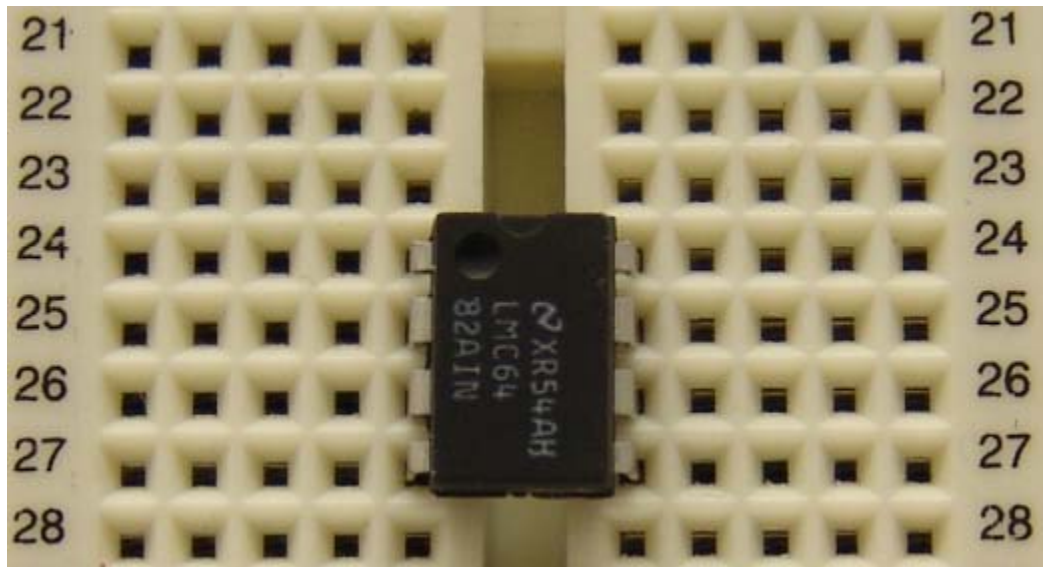

Figure 7. Op-amp inserted on my breadboard.
3. First, insert the op-amp across the middle of the breadboard, refer to figure 7.
As shown in figure 7, breadboards usually have column numbers on the sides so circuit wiring is easy. I will use the column numbers shown in figure 7 (number 21 through 28).